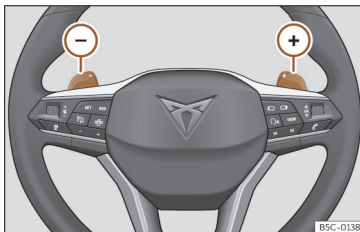

Fig. 94 Steering wheel: automatic gearbox levers
- Press the (+) gear shift paddle to change up a gear >>> **Fig. 94**.